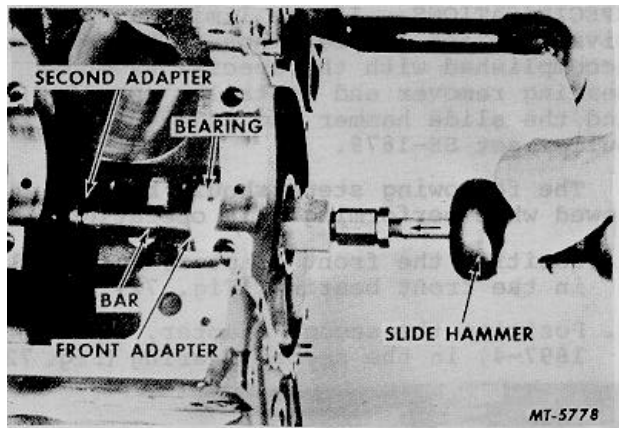

Fig. 74 Removing Front Bearing
6. Remove the "C" washer and use the second adapter as a pilot. Remove the front bearing by driving the bearing into the case (Fig. 74).